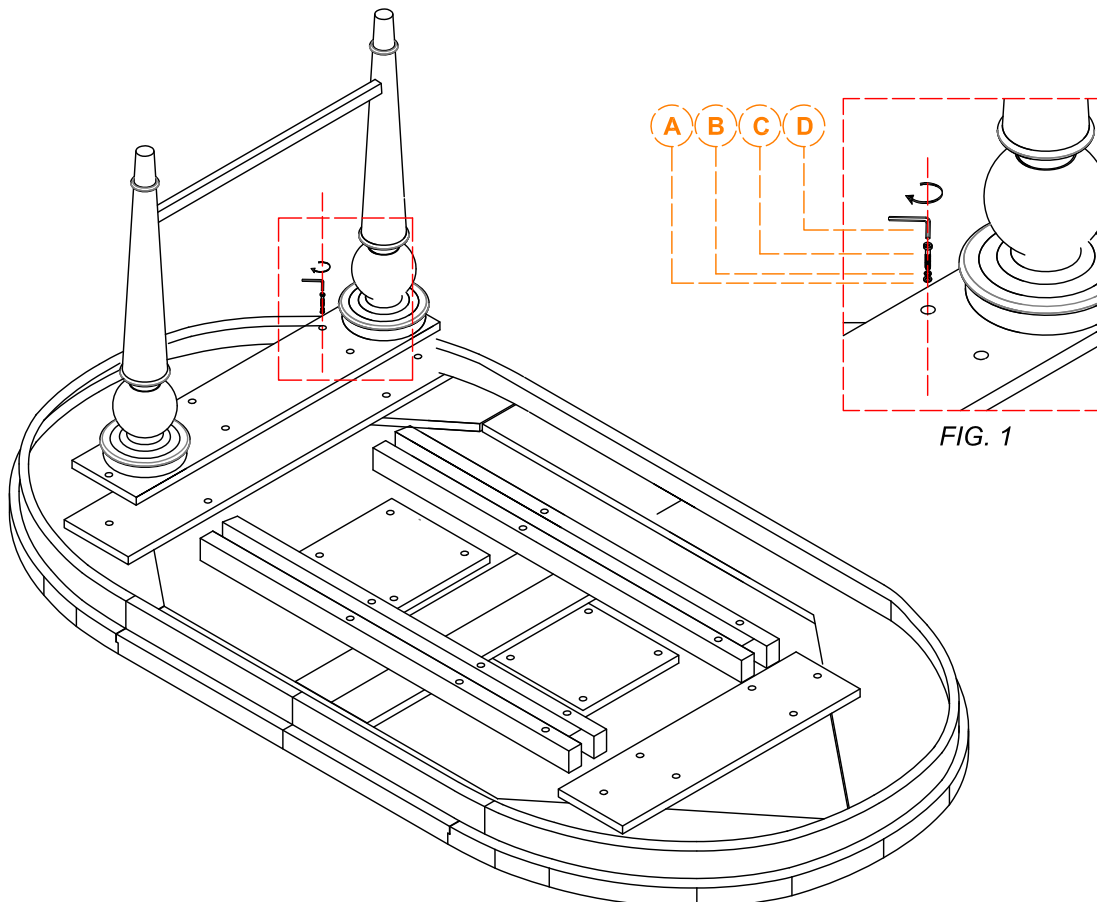

FIG. 1
2. Attach the Side Legs Assembly (3) with Top panel (1) using the JCBC Bolt M8 x 30 mm (C) with Flat Washer M8 (A) and Spring Washer M8 (B) Securely tighten with Allen Key 4 (D) as provided. Assembly in the inverted position for easy installation. Do not place the extension leaves before the top is secured as shown FIG.1;